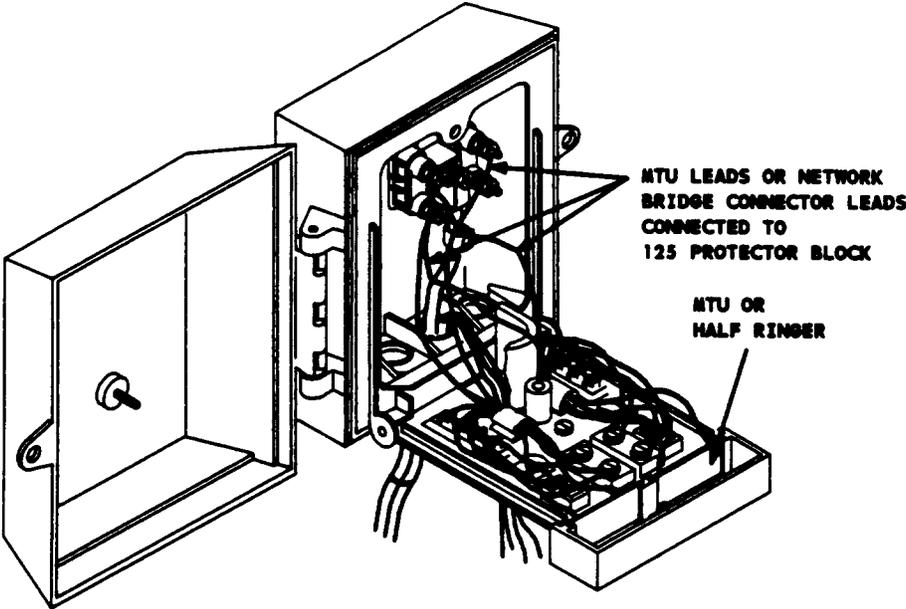

Figure 9. 401 NIU — Wiring MTU to Protector Unit
- (6) Attach leads of the MTU or network bridge connector to corresponding terminals on the 125-type protector (Figure 9). After the wires are attached, close and secure the swing plate. Record subscriber line identification information on labels 1 (for Line 1) and 2 (for Line 2).
- (7) (Installation of subscriber inside wiring is optional depending on local telephone company policy.) Insert subscriber inside wires into the swing plate grommet. Attach subscriber inside wiring in accordance with the procedure of (a) or (b).